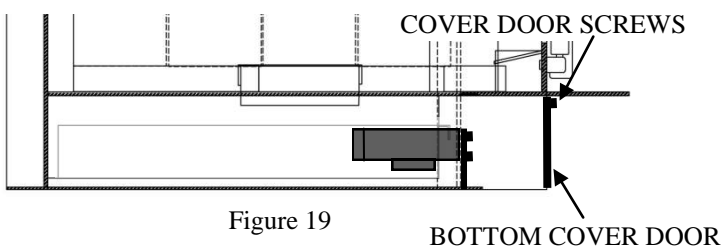

Figure 19
2. To replace motor you must first take bottom cover door off. Do this by removing two screws holding it in place. See Figure 19.